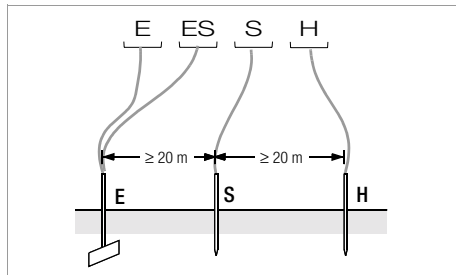

Figure 3 Measuring Earthing Resistance with a 4-Wire Test Setup
- ↗ Position the probe at least 20 meters, and the auxiliary earth electrode at least 40 meters from the earth electrode (see also Figure 3 on page 15).